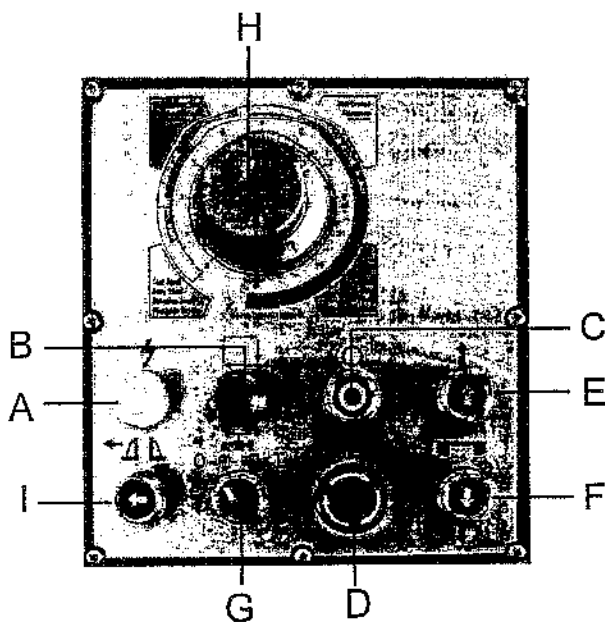

Fig. 2
Controls - figure 2
device may need to be readjusted. If the power indicator light (A - Fig. 2) is not on, the shut-off switch has not been properly set. To adjust, follow these steps:
4. Press the start button to see whether the power indicator light (A - Fig. 2) turns on. If not, readjust again.